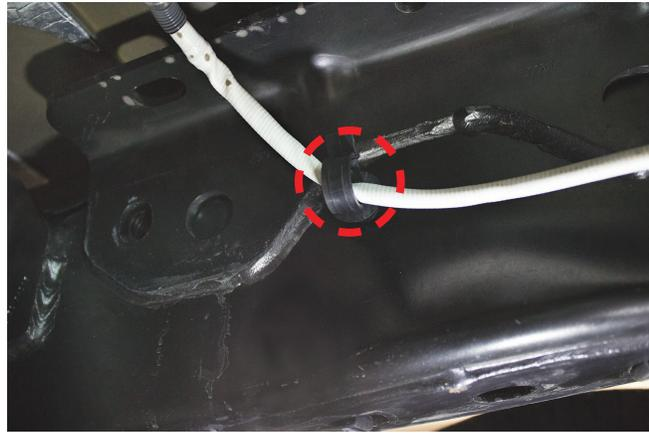

Fig. 32
- To install the passenger's (right) side upper brace (F), locate the clip (red circle Fig. 32) that holds the wiring harness for the O2 sensor. Remove and discard the clip, as it will no longer be needed.